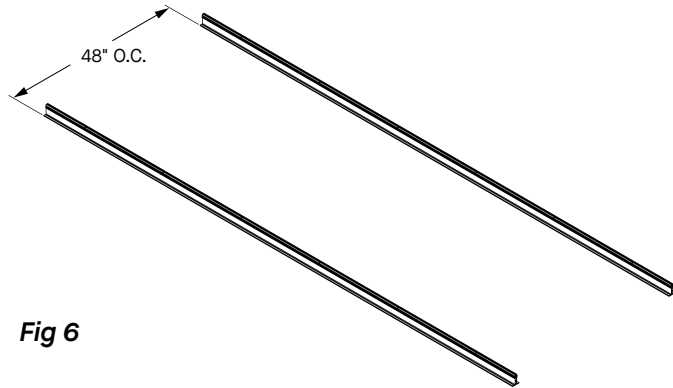

Fig 6
3.2 As an alternate to stick framing, the ceiling suspension system may be prefabricated in panelized 4' × 12' modules using a jig table or template. A jig can be used to align and square the main beams and the cross tees within each module. The X-Bracket (DMXB) and I-Bracket (DMIB) feature alignment stubs on the underside to aid self-squaring. For each module, Skylo main beams are spaced 4' O.C. (**Fig 6**).